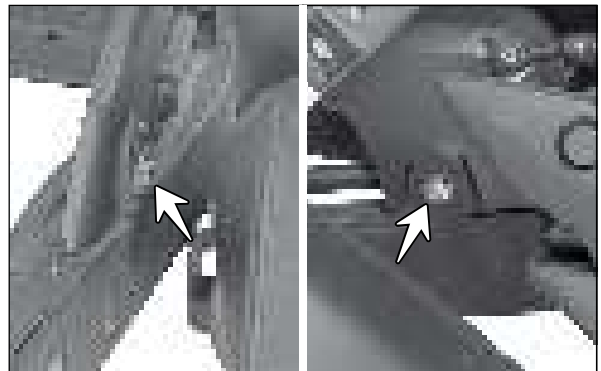

Fig. 6.140
- Remove the hexagonal bolts (M6x20 - 4 Nos.) along with the washers from the chain guard assembly and gently dislocate the chain guard. (Fig. 6.140 & 6.141)